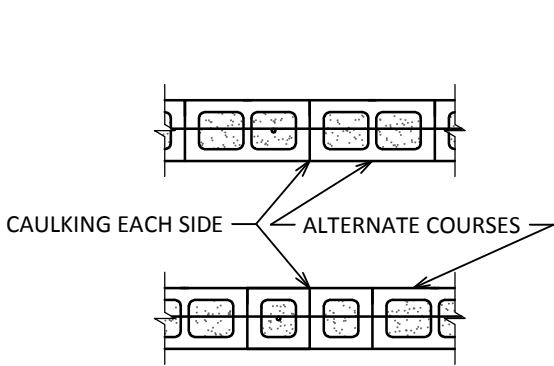
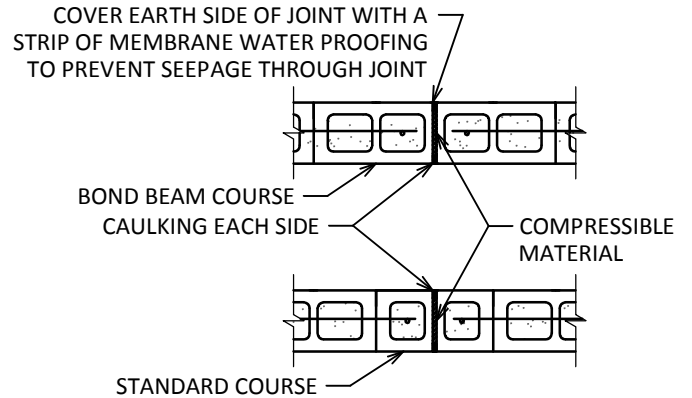

FIGURE 3: MASONRY CONTROL JOINT DETAIL
FIGURE 4: MASONRY EXPANSION JOINT DETAIL
9. Control joints (see Figure 3) shall be placed no more than 20-feet o.c. Expansion joints (see Figure 4) shall be placed at every fourth control joint.